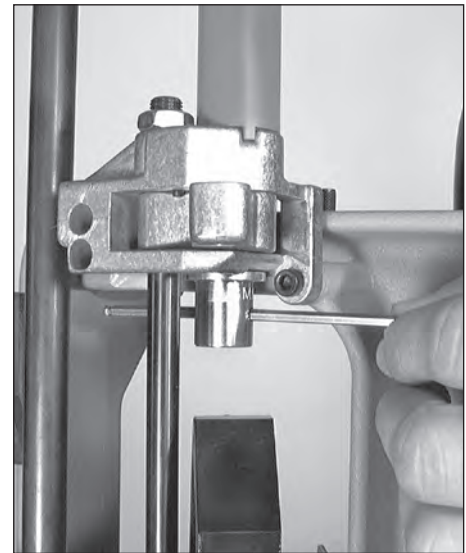

FIG 177
1. The body bushing is located on the right side just above Station 1 **FIG 177**. Remove the body bushing by slipping an Allen wrench through the cross hole and twisting it counter clockwise.